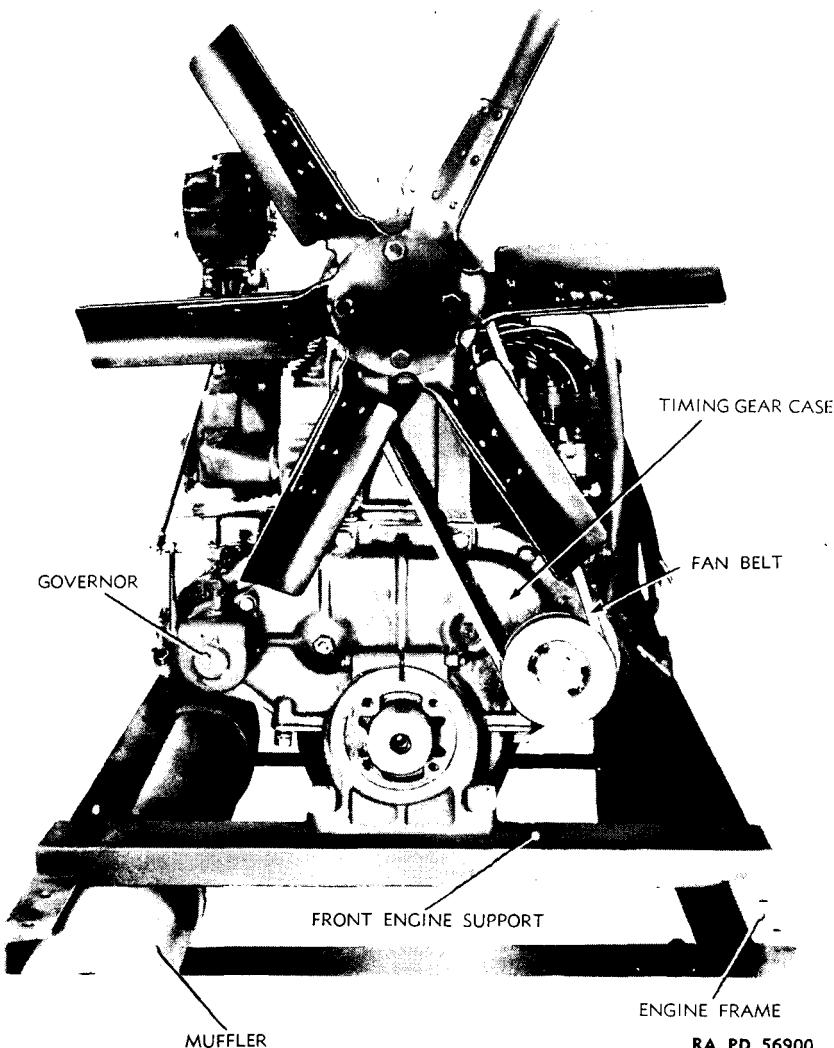

Figure 16—Engine—With Radiator and Canopy Removed—Front View
a. **Construction.** The gasoline engine (figs. 16, 17 and 18) is a 6-cylinder, L-head type, with aluminum pistons. The cylinder block and crankcase are cast in one piece, and the water jacket extends the